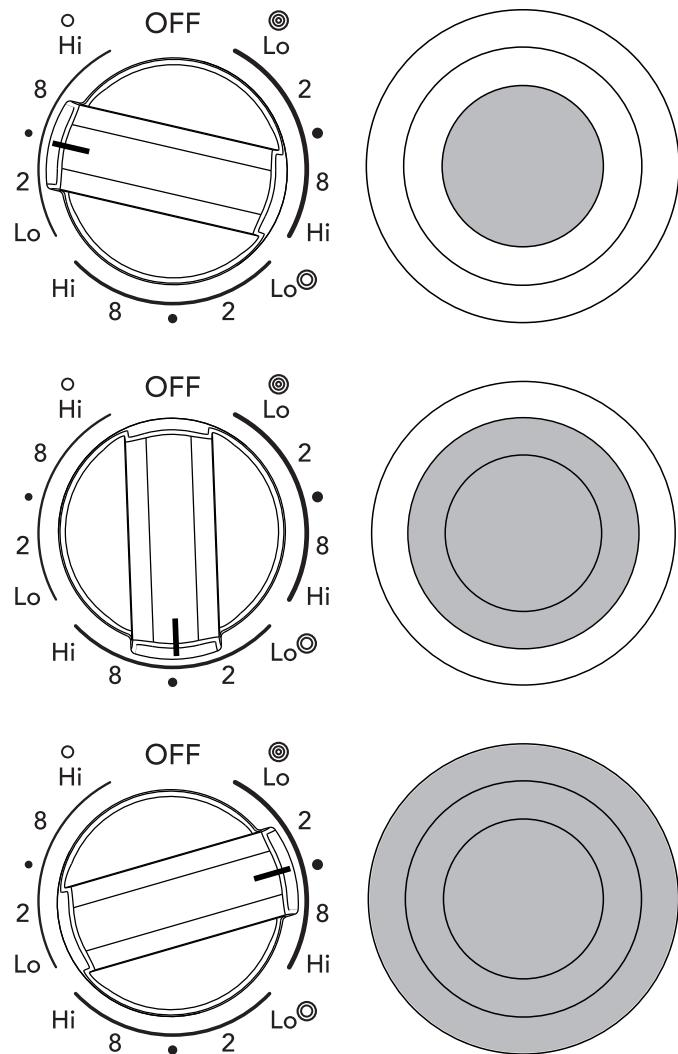

Figure 9: Triple element knob settings
Symbols around the knob are used to indicate which element of the triple radiant element will heat. The \circ symbol indicates that only the inner element will heat. The \odot symbol indicates that the inner and middle elements will heat. The \circledcirc symbol indicates that the inner, middle and outer elements will heat (Figure 9). You may switch the element setting at any time during cooking.
2. Push in and turn the control knob to the inner element symbol for smaller cookware or to the inner and middle element symbol for average cookware or to the inner, middle, and outer element symbol for large cookware (Figure 9). Turn the knob to adjust the setting if needed.